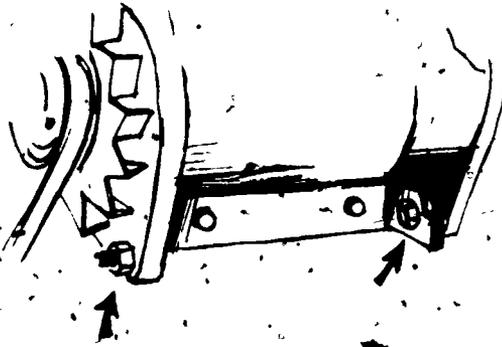

FIGURE 3
5. Remove the bolts holding the generator to the engine mounting bracket. (Figure 3)